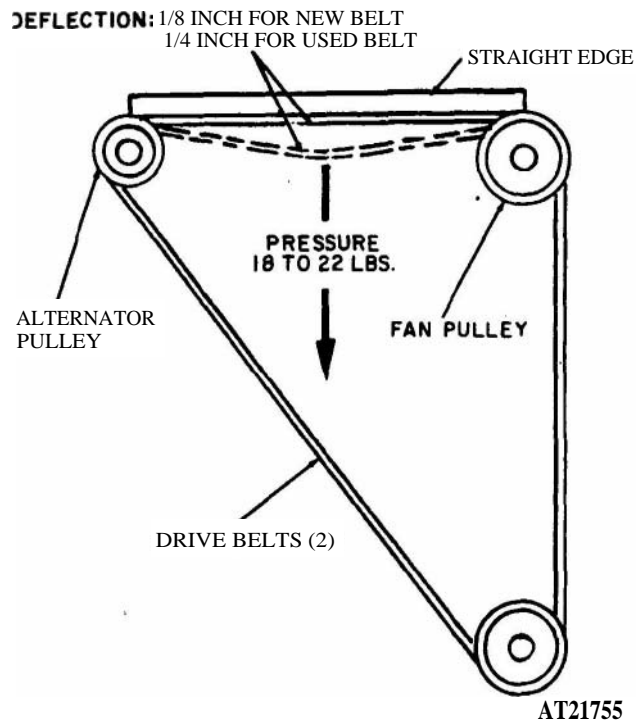

Figure 2-103. Drive belt tension adjustment.
(2) Position alternator to obtain belt deflection of $\frac{1}{8}$ -inch for new belt and $\frac{1}{4}$ inch for used belt at 18 to 22 pounds pressure. When correct tension is obtained, tighten screw on alternator adjusting strap and torque to 35-40 lbs-ft. (fig 2-103).